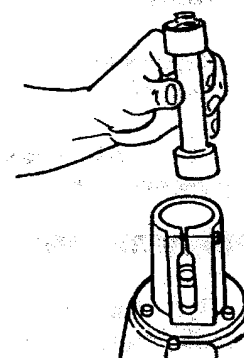

Fig.29
8. Mount a regular Mark V coupler (spring-side out) to the drive hub of the Speed Reducer, as shown in Fig.29.